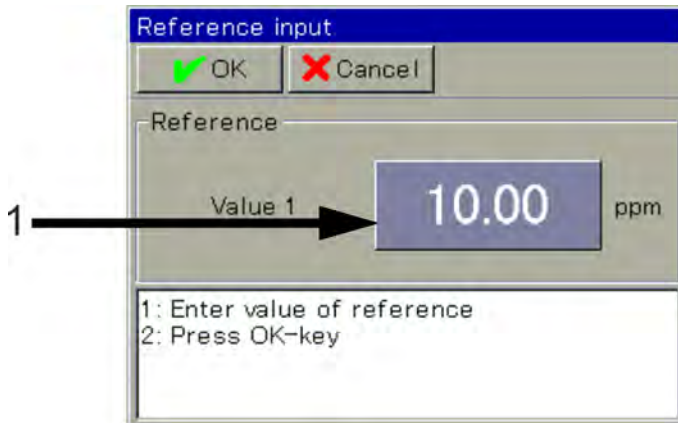

Fig. 84: To enter the reference value of the test solution, tap the button (1)
3. ➤ Enter the reference value of the first test solution. (See Fig. 84 .)